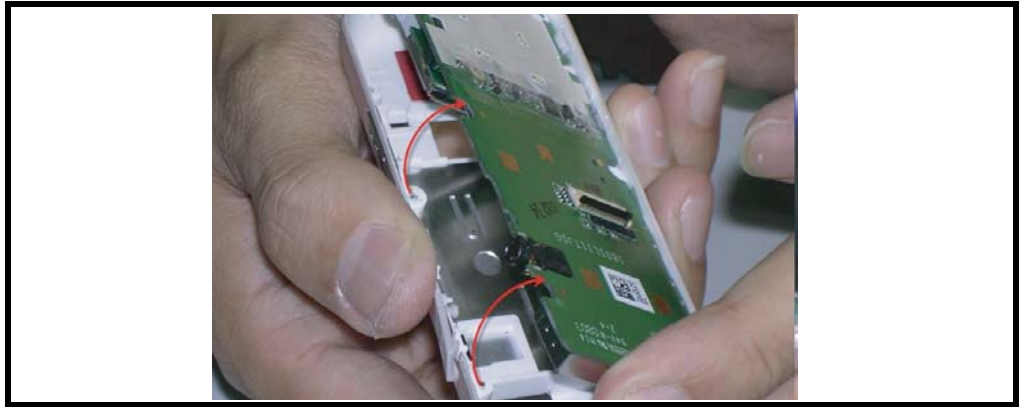

Figure 37. Removing Case C and Case D
4. Separate Main PCBA and Case D by hand illustrated in figure 37.